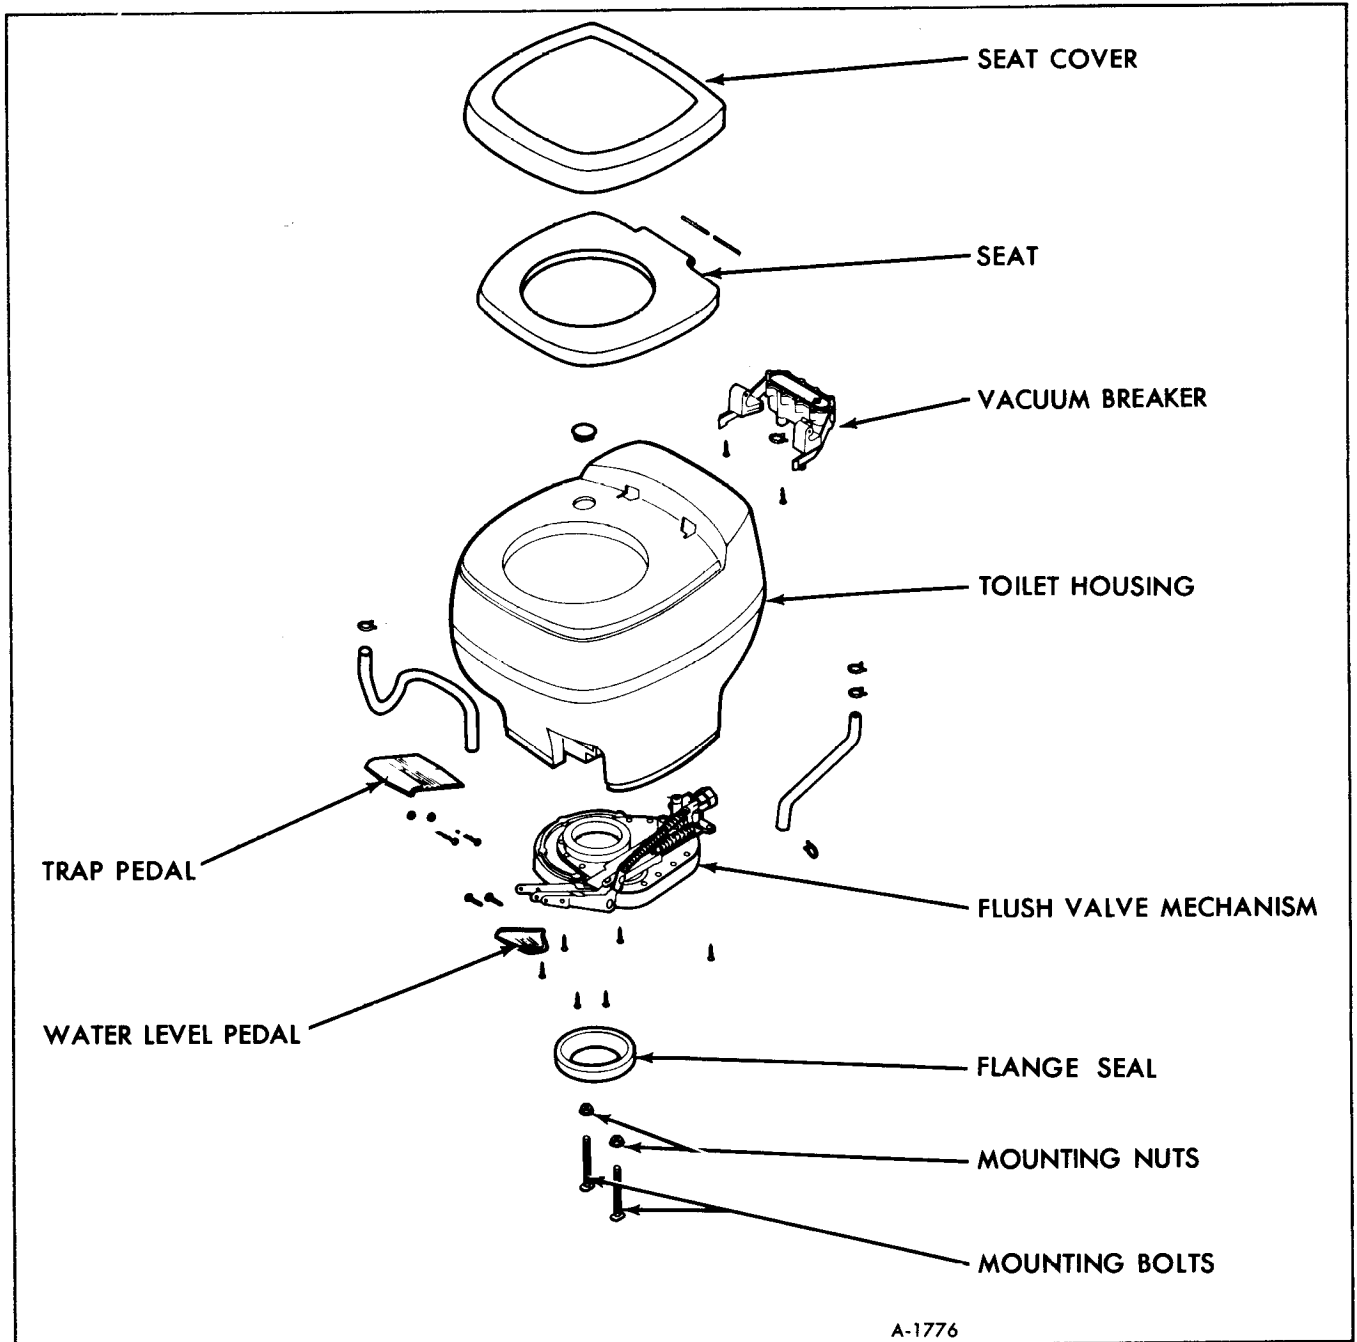

Figure 1-Standard Toilet Components
The standard toilet (figure 1) is a fresh water, permanently installed sanitation system. It uses a pressure flushing system. This scours the bowl with
The toilet disassembles into four main subassemblies (See figure 1).
1. Removal of the seat and cover assembly (figure 1):
2. Removal of the vacuum breaker (figure 1):
3. Removal of the mechanism assembly (figure 1):
2. Remove two cover mounting screws and motor cover (figure 1).